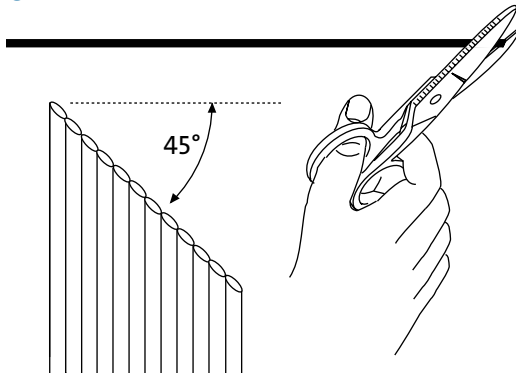

Figure 18
Step 4: At the free end of the ribbon with the fibers to be accessed individually, use scissors to cut the end at a 45-degree angle (Figure 18).